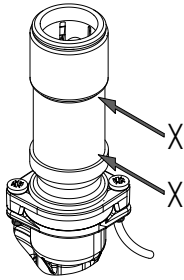

Fig. 25
- For correct operation of the flow switch, the reed must be secured to the body (Fig. 25)
- Locate the reed switch within the body groove as highlighted X-X (Fig. 25), and feed the tie wrap through the second catch.